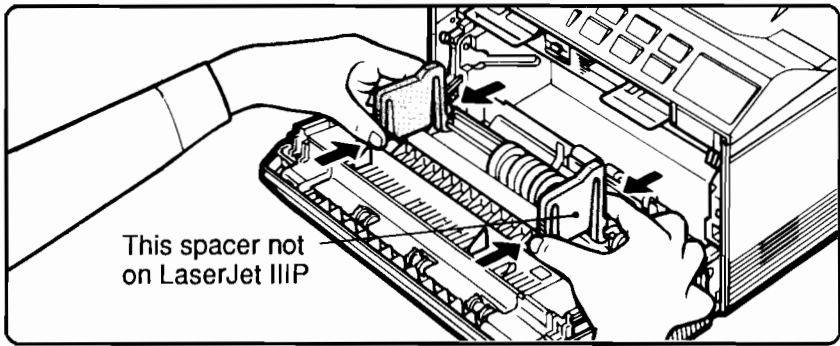

Figure 3-1. Removing the Packing Spacer(s)
1. Locate the Multi Purpose (MP) tray.
4. Squeeze and remove the orange packing spacer(s) from inside the printer. (The LaserJet IIIP has one spacer, the LaserJet IIP has two—see Figure 3-1.)